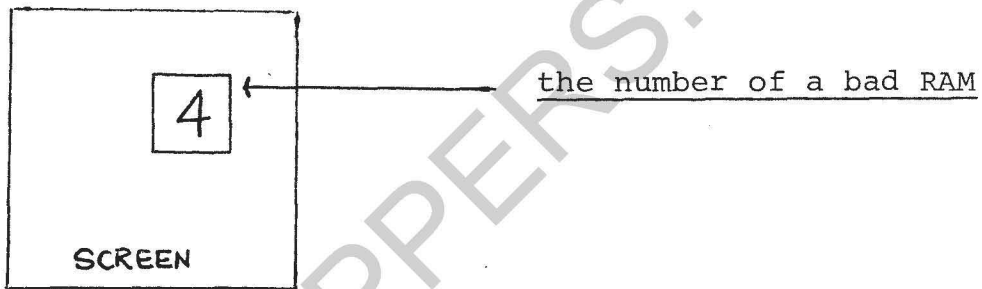

FIG. 1.
2. When a RAM is defective, the alphanumeric location it is displayed on the screen as shown in Fig. 1.
(PER ILLUSTRATION FIGURE 1)
PROCEDURE: THE JUMPERS YOU NEED TO CHANGE ARE ON THE SOUND BOARD (PVN00004). WITH THE "G" CONNECTOR ON THE RIGHT, THE JUMPER LOCATION IS BETWEEN IC10 AND THE SWITCH BLOCK. PLACE THREE JUMPERS ACCORDING TO FIGURE 1. TURN SWITCHES 5,6, AND 7 OFF. BETWEEN IC1 AND IC7 THERE ARE 3 JUMPER HOLES. JUMPER ACCORDING TO FIGURE 1. ON THE ETCH SIDE OF THE BOARD, BETWEEN IC1 AND IC7 YOU WILL SEE THE SAME 3 JUMPER HOLE. CUT THE ETCH THAT IS CONNECTING THE TWO HOLES ACCORDING TO FIGURE 2.